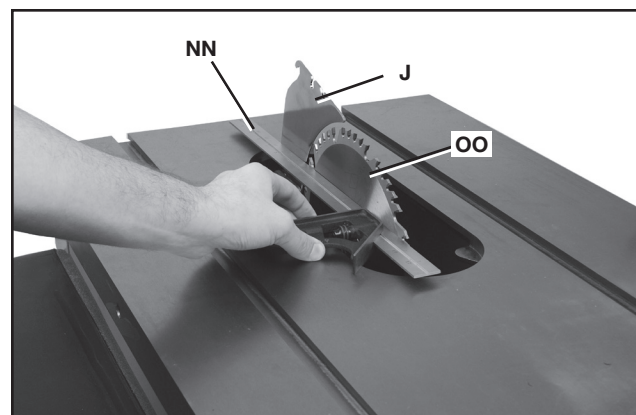
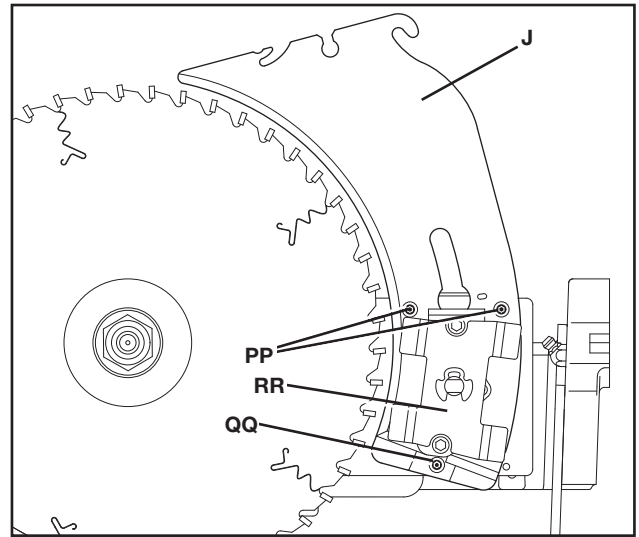
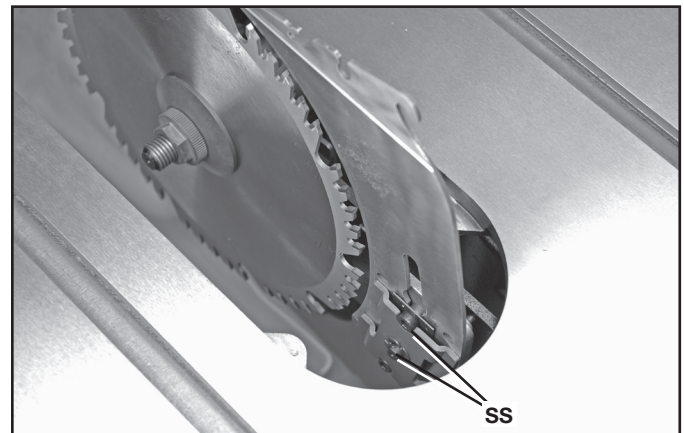

FIG. 32
FIG. 33
FIG. 35
Using a straight edge (NN), ensure that the blade (OO) is aligned with the riving knife (J) as shown in Fig. 32. (BE SURE THE STRAIGHT EDGE GOES BETWEEN THE TEETH AND RESTS ON THE BLADE BODY AND THE RIVING KNIFE FOR PROPER ALIGNMENT.)
3. Raise the riving knife (J) Fig. 33 to the through-cutting or highest position (Fig. 27).
4. Locate the three small set screws (PP) and (QQ) adjacent to the riving knife locking plate (RR). These screws will be used to adjust the riving knife position.
5. Lay a straight edge on the table against blade body and make sure it extends out along the riving knife, as shown in Fig. 32. The riving knife should just touch the straight edge. If adjustment needed, loosen the two socket head cap screws (SS) Fig. 35.
6. Adjust the set screws (PP) and (QQ) Fig. 33 to move the riving knife in line with the blade according to the position noted in STEP 5. Lay the straight edge on the opposite side of the blade and repeat these adjustments as needed.
7. Lightly tighten the two socket head cap screws (SS) Fig. 35.
11. Fully tighten the two socket head cap screws (SS) Fig. 35.